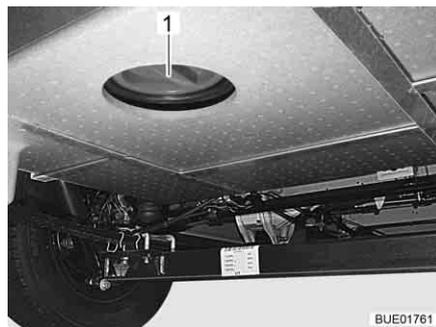

Fig. 247 Cleaning opening on the waste water tank
- Open the cleaning opening (Fig. 247, 1) on the waste water tank and the drain cock.